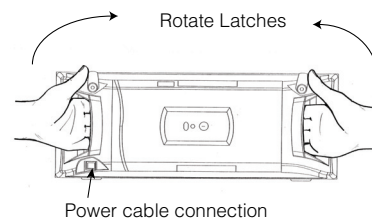

Figure 10 Rotating Door Latches
**Step 1:** To remove the door, hold handles and rotate latches as shown in Figure 10.
**Handle the door only by using the handles on the front of the door. Grasp the door by the handles as depicted in Figure 10 to remove and replace the door. Do not handle the door on the edges. Metal edges may be sharp and could result in injury if the door is not handled properly.**